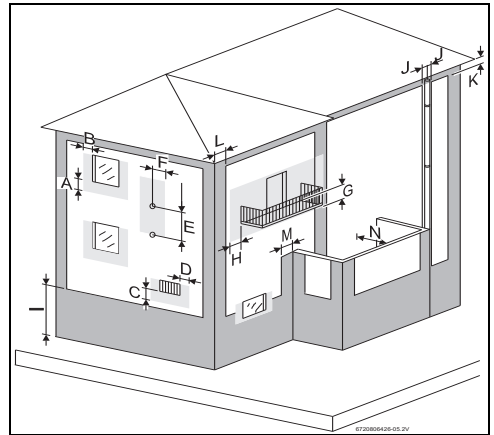

Fig. 11 Minimum distances to exhaustion points
- ▶ Respect the minimum installation measures indicated in fig. 11.
- ▶ Respect the minimum distances indicated in the fig. 11.